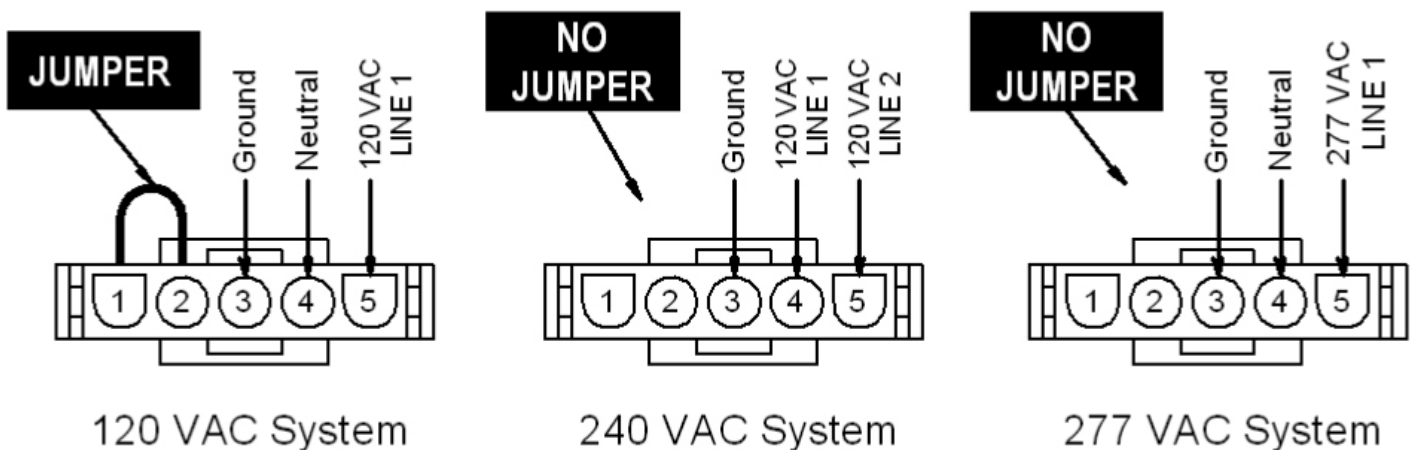

Figure 9
3. Determine if HVAC system is wired for 120 VAC power, 240 VAC power or 277 VAC. If system is wired for 120 VAC power, verify a jumper wire is installed between positions 1 and 2 of the power cord connector. On systems wired for 240 VAC or 277 VAC, the jumper wire should be removed [Figure 9].
7. Check the voltage between position 4 and 5 of the power cord connector. See Figure 9.